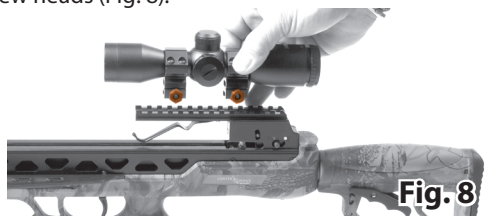

Fig. 8
2. Align the scope rings with the slots on the sight bridge picatinny rail and tighten the Hex screw heads (Fig. 8).